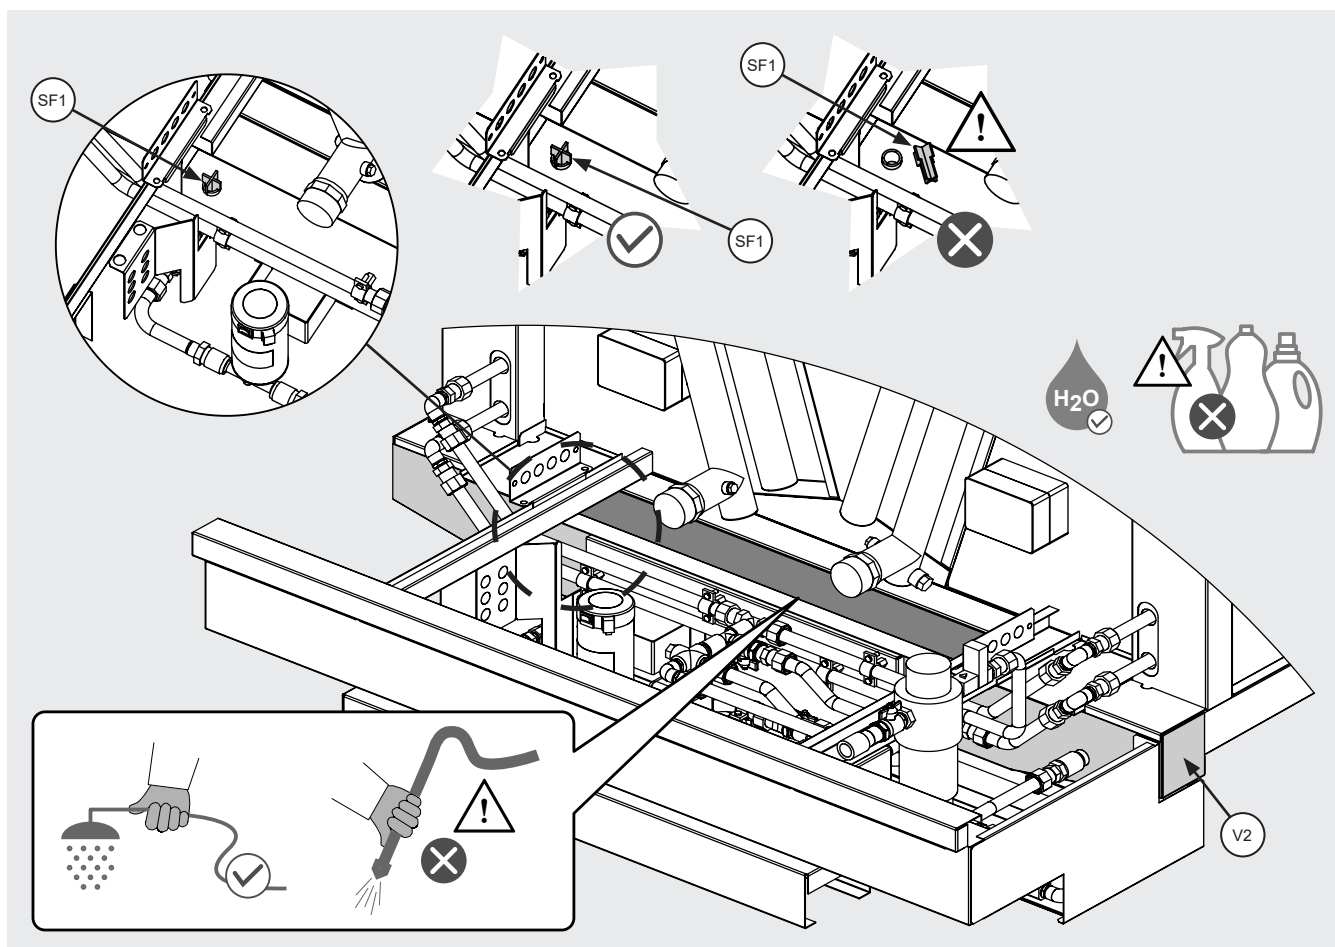

Figure 25
- 12.13.8 Carefully clean the flow divider SF1. Do not remove it from the housing. If accidentally removed, replace it. See Figure 25.
- 12.14.1 See point 2.9 for functional description of level switch (W1) and its location. Level switch (W1) is located inside the external tank (V2), see Figure 25.